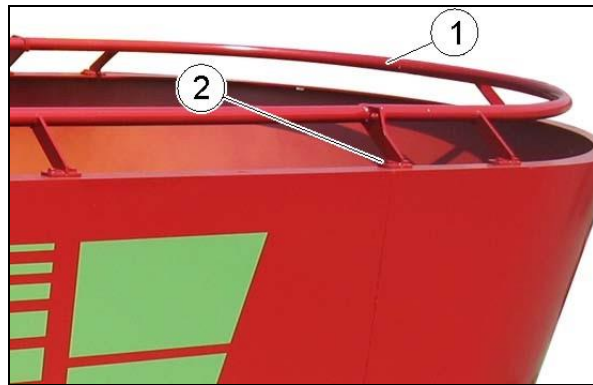

Fig. 58
- an elevated overflow ring (Fig. 58), screwed on the top edge of the container,